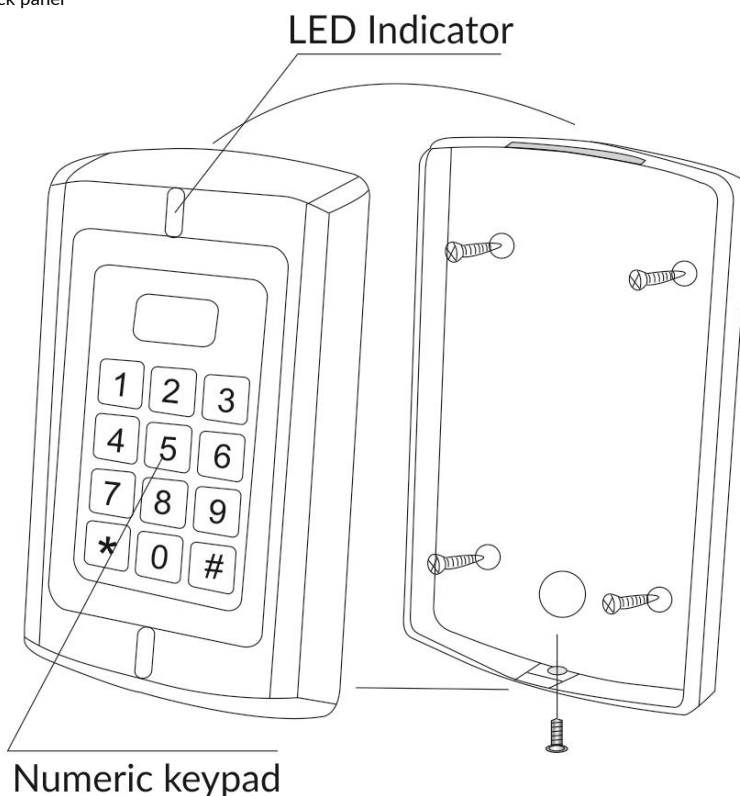

Fig.2
5. Attach the front cover (Fig. 2).